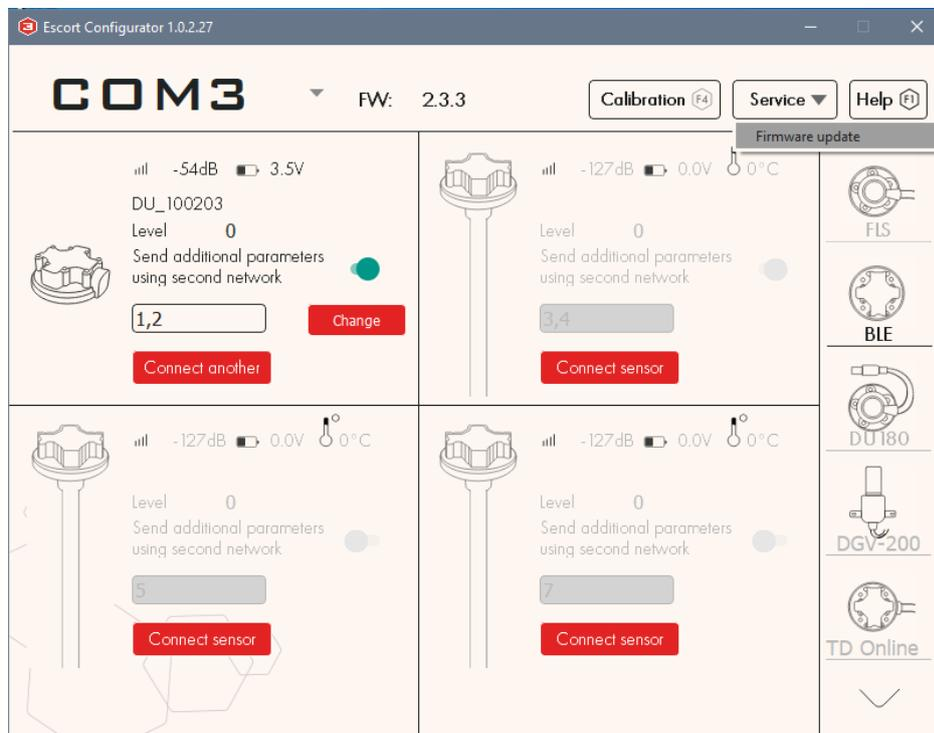

Fig. 11.3. Open the **Firmware update** menu
4. Click on the *Service* → and then the **Firmware update** buttons (Fig.11.3.)